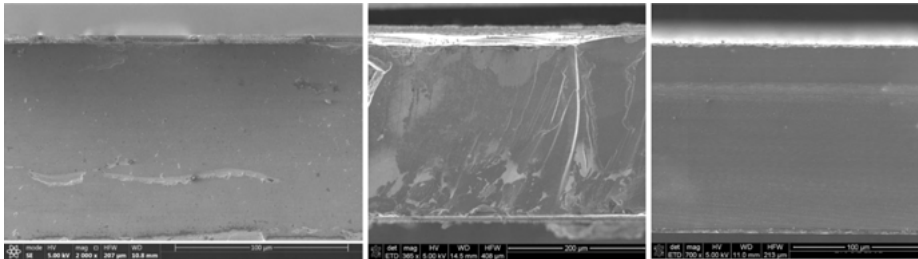
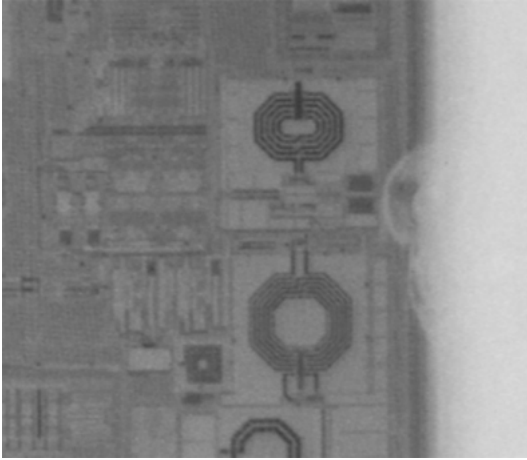

Figure 4.1: Die edge damage on two die (horizontal and vertical damage) and a new method of dicing that leaves very little damage. Image by EAG.
Figure 4.2: IR image of scallop damage. The damage is seen through the ~700 microns of Si. Image by EAG.
Physical damage is usually caused by dicing, pick-and-place tools, or humans (especially with metal tweezers). There are a variety of dicing methods in use and they vary in their rates of damage and the way they cause damage. Figure 4.1 shows cross sections of several dicing methods. Usually, the dicing damage is caused by a system that is not well maintained or has not been used on this new device. I have seen edge damage from dull blades, loose “chattering” blades, and blades that hit objects in the street (this was a truly dumb idea to place metal critical dimension (CD) markers in the street). Typical scallop damage is shown in Figure 4.2.